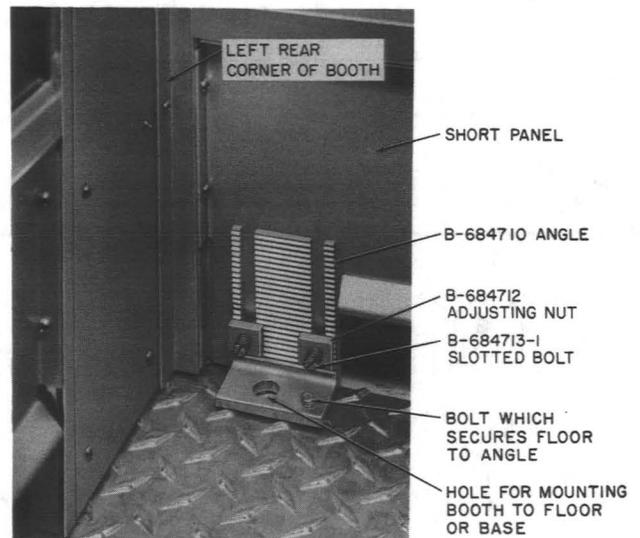

Fig. 11—Anchor Bracket and Leveling Device
2.21 Adjustable mounting angles (Fig. 11) are provided to facilitate booth leveling up to 3 inches. They are also used for bolting the booth to its mounting surface.
- (a) If a KS-19580, List 28 foundation template is used, remove four insert plugs from template and secure anchor brackets (Fig. 11) of booth to template using four 3/8-16 by 1-1/4 hex head bolts, four 3/8-inch lockwashers, and four 3/8-inch flat washers.
(d) Adjust the anchor brackets (Fig. 11) if necessary, and ensure that the booth is level.